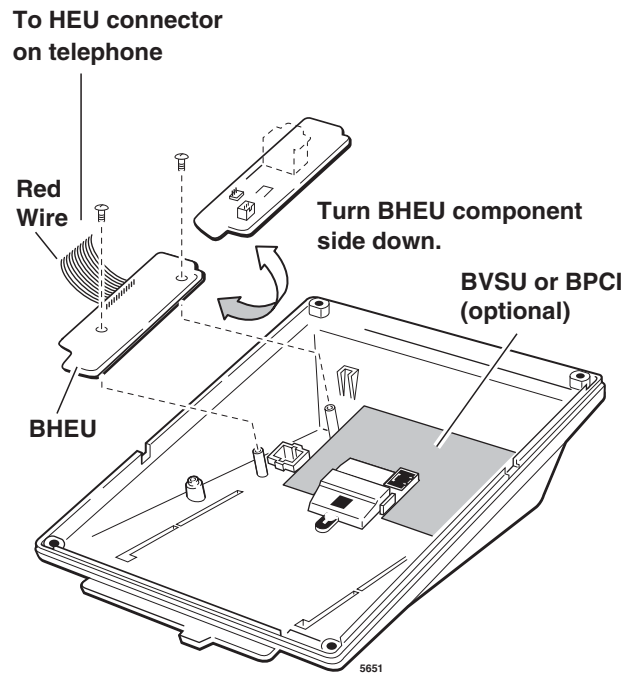

Figure 12-18 BHEU Installation
3. Position the BHEU PCB (component side down) on the standoffs inside the base, and secure with the two provided screws (see Figure 12-18).